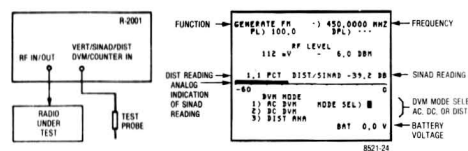

Figure 4-13. Test Setup for Using DVM and Signal Generate with CRT Display
f. Troubleshooting Receiver audio stages using "DVM and Signal Generate" function simultaneously (Figure 4-13).